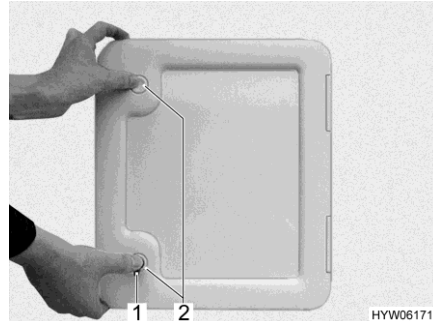

Fig. 169 Flap (sewage tank)
- Open the flap for the sewage tank on the outside of the vehicle. Insert the key into the locking cylinder of the push-button lock (Fig. 169,1) and turn a quarter turn in a clockwise direction.
- Press both push-button locks (Fig. 169,2) simultaneously with your thumb and open the flap for the sewage tank.